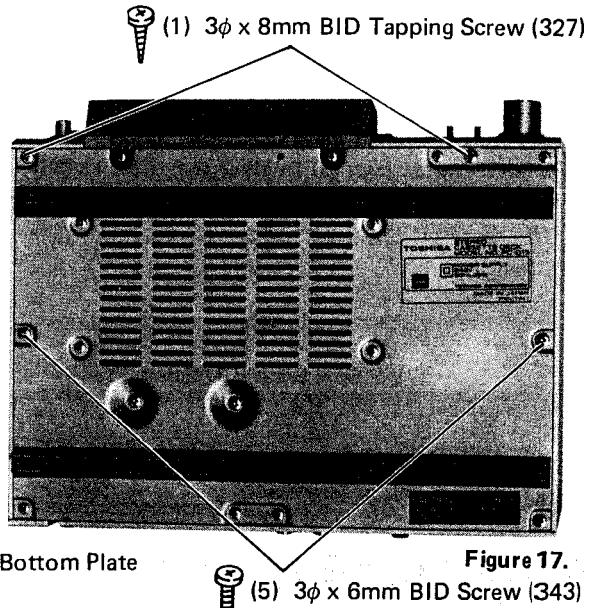

Figure 17.
- Remove two screws (1) holding the panel and the bottom plate as shown in Figure 17.
- Remove two screws (2) holding the front panel and the front panel can be removed as shown in Figure 17.
- Remove two screws (5) holding the bottom plate and the side panels as shown in Figure 17.